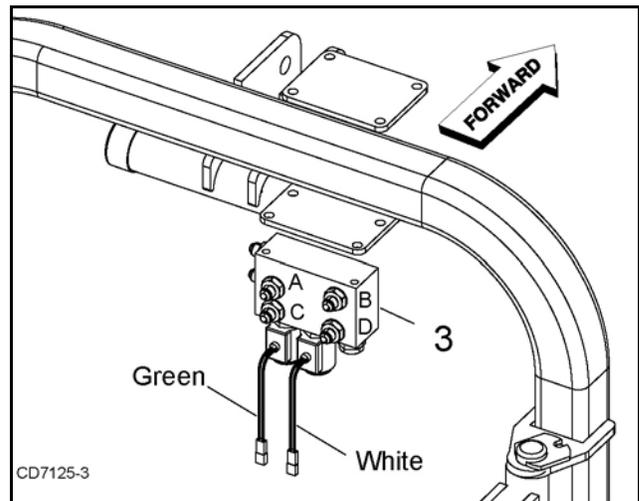

Figure 33. Harness to Valve Assembly Connection
1. Attach adapter (1) to base end of each cylinder.
2. Attach restrictor adapter (2) to the rod end of each cylinder.
3. Install adapters (1) to each port (six) of the selector valve (3).
4. Attach straight hose (12) to the base end of swing cylinder. Attach 90° end of hose to port (A) on the selector valve.
5. Attach second hose (12) to the rod end of swing cylinder. Attach 90° end of hose to port (C) on the selector valve.
6. Attach straight end of hose (13) to the base end of lift cylinder. Attach 90° end of hose to port (B) on the selector valve.
7. Attach second hose (13) to the rod end of lift cylinder. Attach 90° end of hose to port (D) on the selector valve.
8. Attach 90° ends of supply hose (14) to the side ports on the selector valve.
10. Connect green and white wire leads from harness switch assembly to leads on valve assembly (3) shown in Figure 33.